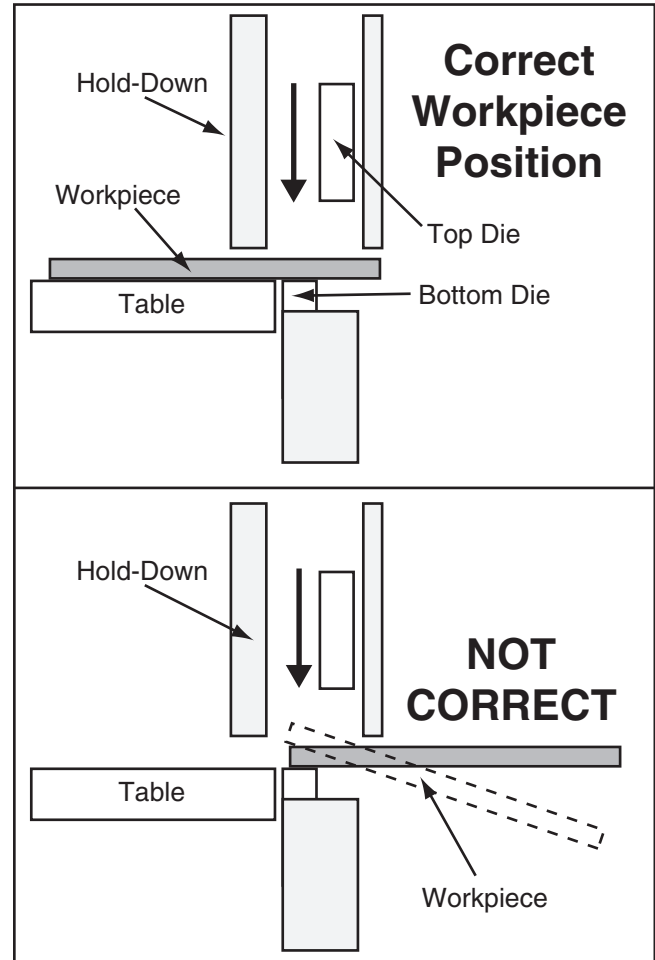

Figure 31. Flat stock shearing workpiece position.
The workpiece **MUST** extend through the hold-down and through the dies, as shown in **Figure 31**, to avoid sudden unexpected upward movement of the workpiece during the cutting operation.
4. Position the workpiece under the hold-down and beyond the shearing dies (refer to **Figure 31** on **Page 28**).
The workpiece **MUST** extend through the support frame and beyond the dies to avoid sudden unexpected movement of the workpiece when cutting (refer to the illustration in *Figure 31* on *Page 28*). Fully support and flag long workpieces to reduce the risk of hazards.